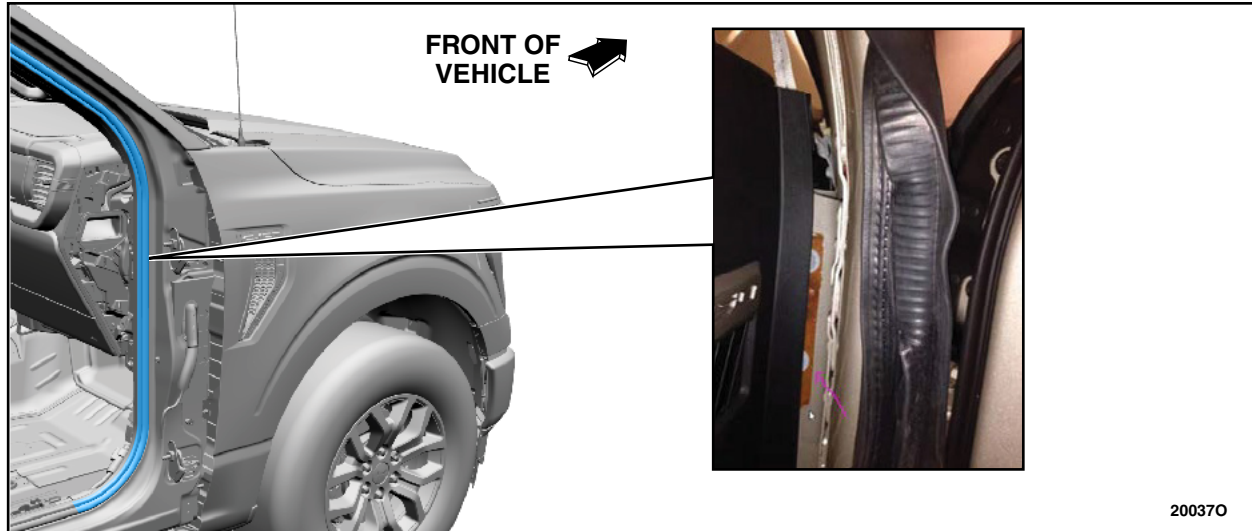

FIGURE 13
24. Inspect the front RH side door weatherstrip for any rips or deformity. See Figure 13.